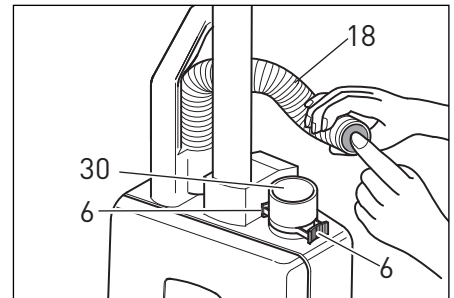

Figure 20
## Clogs in the Attachment Hose - Figure 20
Remove attachment hose (18) from vacuum cleaner (see figure 20) and remove front cover (8). Clean out connecting tube (30) and/or entrance to bag (49).